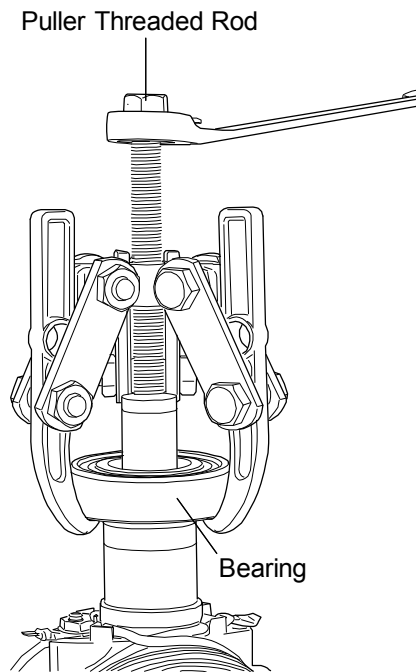

Figure 6-9: Bearing Puller in Use
1. Install a three-jaw gear or bearing puller on the rotor shaft. Make sure all three jaws are under the outer race of the bearing (refer to Figure 6-9).
2. Rotate the threaded rod of the bearing puller and remove the bearing (13) from the rotor shaft (12).
3. Pre-heat an oven to $350^{\circ} \pm 25^{\circ}$ Fahrenheit. Place the replacement bearing (13) in the oven for 30 minutes.
NOTE: The rotor (12, Figure 6-9) at this point is free to rotate and must be kept from rotating to enable removal of the through bolt (11).
10. Put a box-end wrench on the hex of the through bolt (11).
11. Using a plastic, rubber, or other soft-faced hammer, strike the side of the wrench using sharp blows to loosen the through bolt (11).
12. When the through bolt (11) is loosened, it can easily be removed.
2. Put a box-end wrench on the hex of the through bolt (11).
3. Using a plastic, rubber, or other soft-faced hammer, strike the side of the wrench using sharp blows to loosen the through bolt (11).